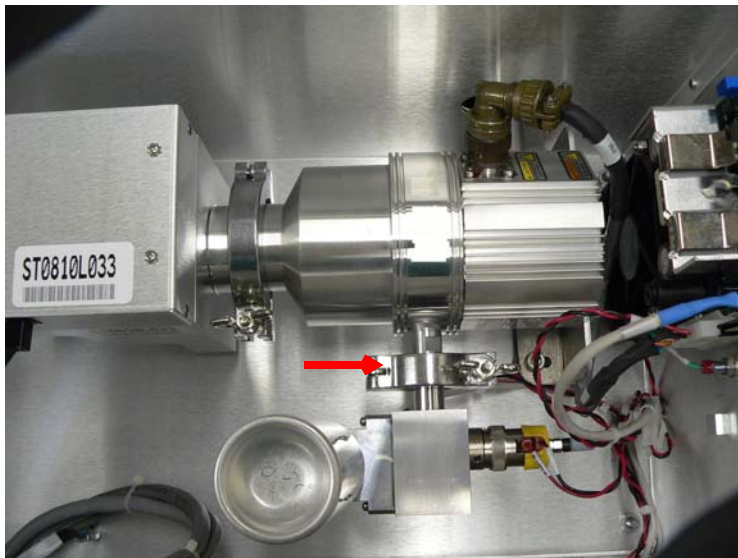

Figure B-43 Remove Clamp
5. Loosen and remove the clamp (Figure B-43).